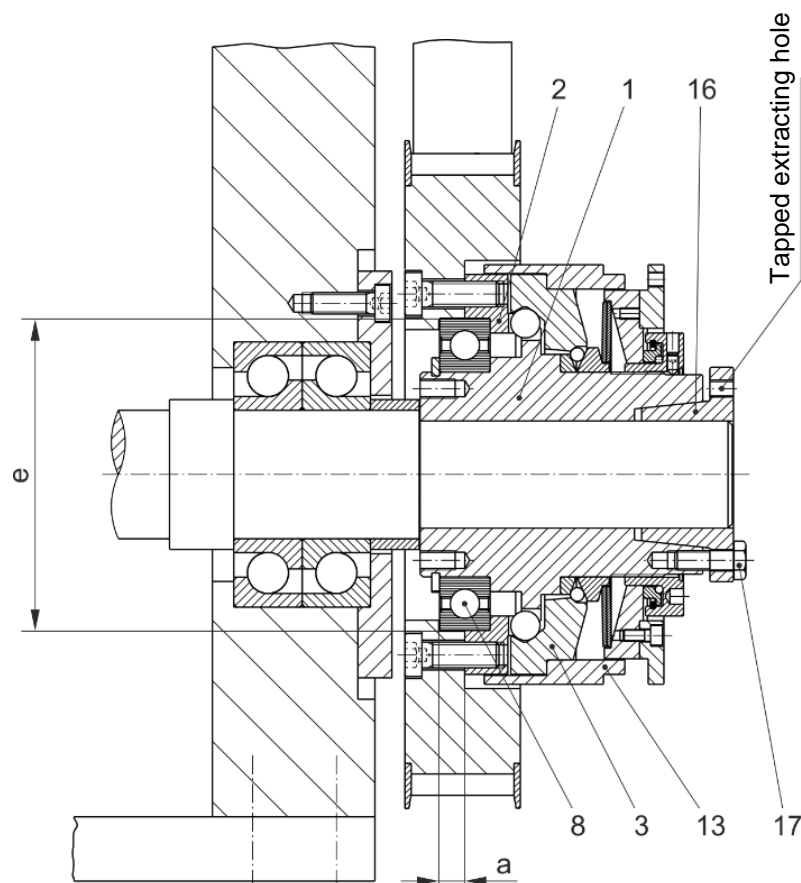

Fig. 5
## Installation of the Output Elements (Fig. 5)
**In order to prevent the output element (pressure flange (2)) from moving axially in the direction of the thrust washer (3) during overload, please make sure that the bearing of the output element is designed as a locating bearing (Fig. 5).**
Please observe the connection dimensions "a" and "e" for the output elements (Fig. 5 and Table 7).